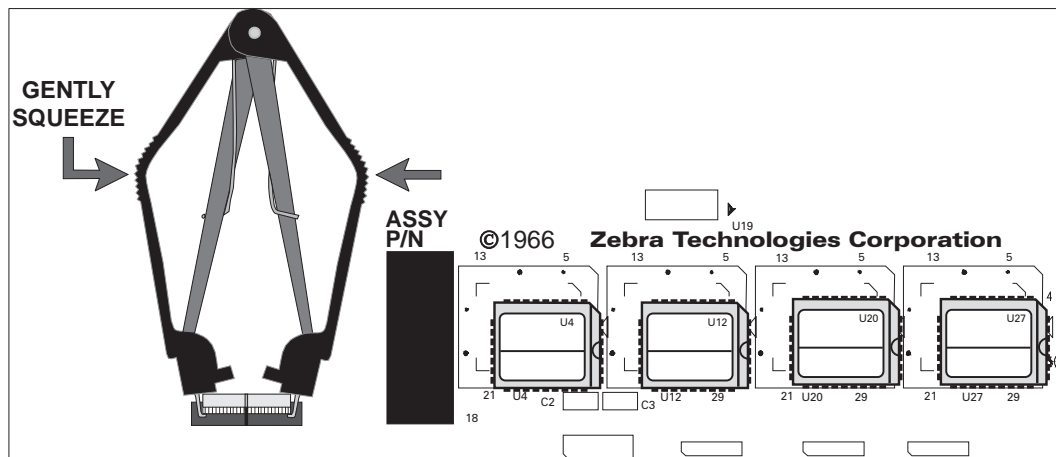

Figure 5.16 Program ROM Replacement
3. Refer to Figure 5.16. Insert the tines at the bottom of the Extraction Tool firmly into the slots in the chip socket. Make sure the tines catch under the ROM chip as you **gently squeeze**, and the program ROM will raise out of the socket. Repeat for positions U4, U12, U20 and U27.